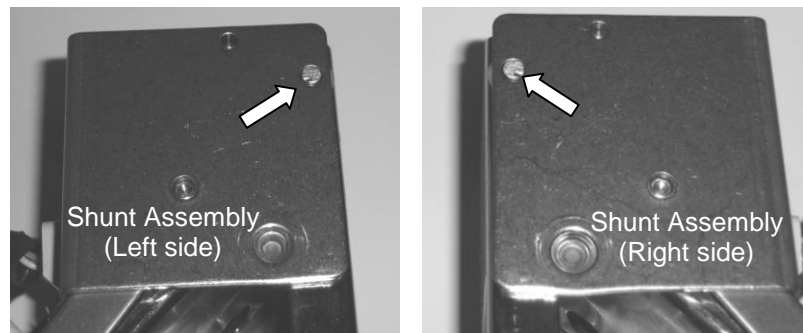

Figure 7 – Pivot Shaft Location (Door Closed)
- 4.11 Slide the metal portion out of the plastic portion and locate the pivot shaft ends using the arrows in Figure 7 below.